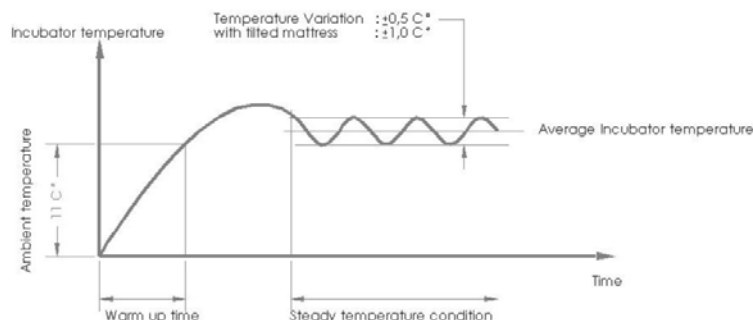

Figure 25: Temperature Profile
It is the expectation that the temperature profile in the infant incubator will generally follow the graph as shown in **Figure 25**. The first component of the profile is called the **Warm Up Time, (WT)** and the test requirements are defined in the Standard [clause 201.12.1.107].